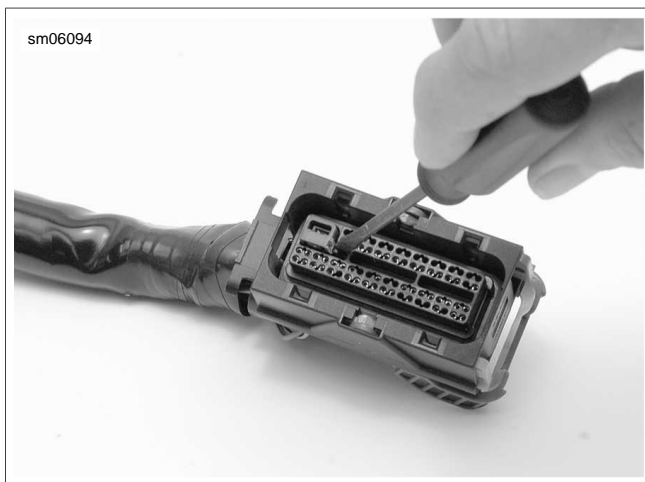

Figure A-40. Remove Ground Secondary Lock
2. See Figure A-40. Using a thin blade screwdriver, gently pry ground terminal retainer from connector housing.